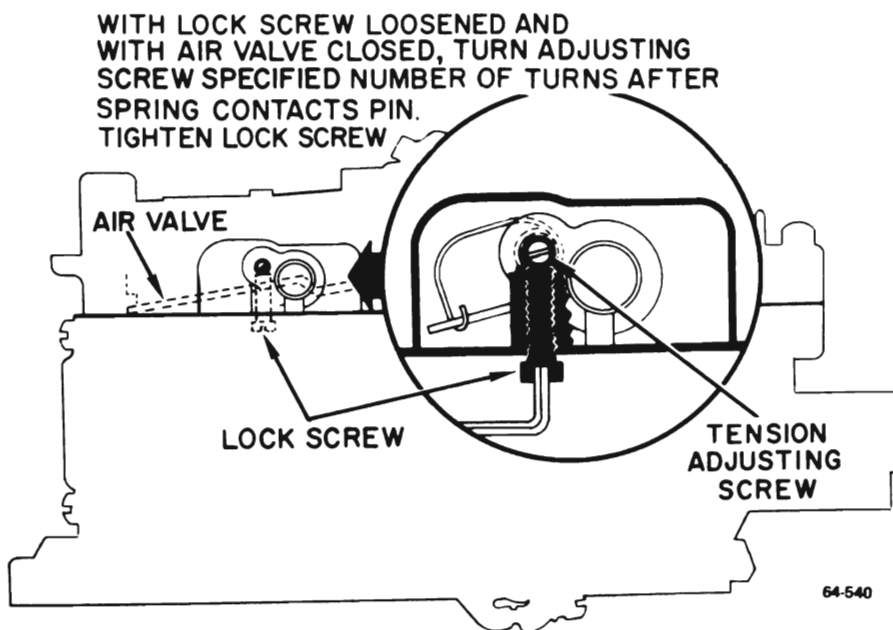

Figure 64-52A - Secondary Lockout Adjustment
2. *Secondary Lockout Pin Side Clearance* - With choke valve and secondary throttle valve fully closed, bend lockout pin at point shown to maintain specified side clearance between side of lockout pin and lockout lever. See Figure 64-52A.